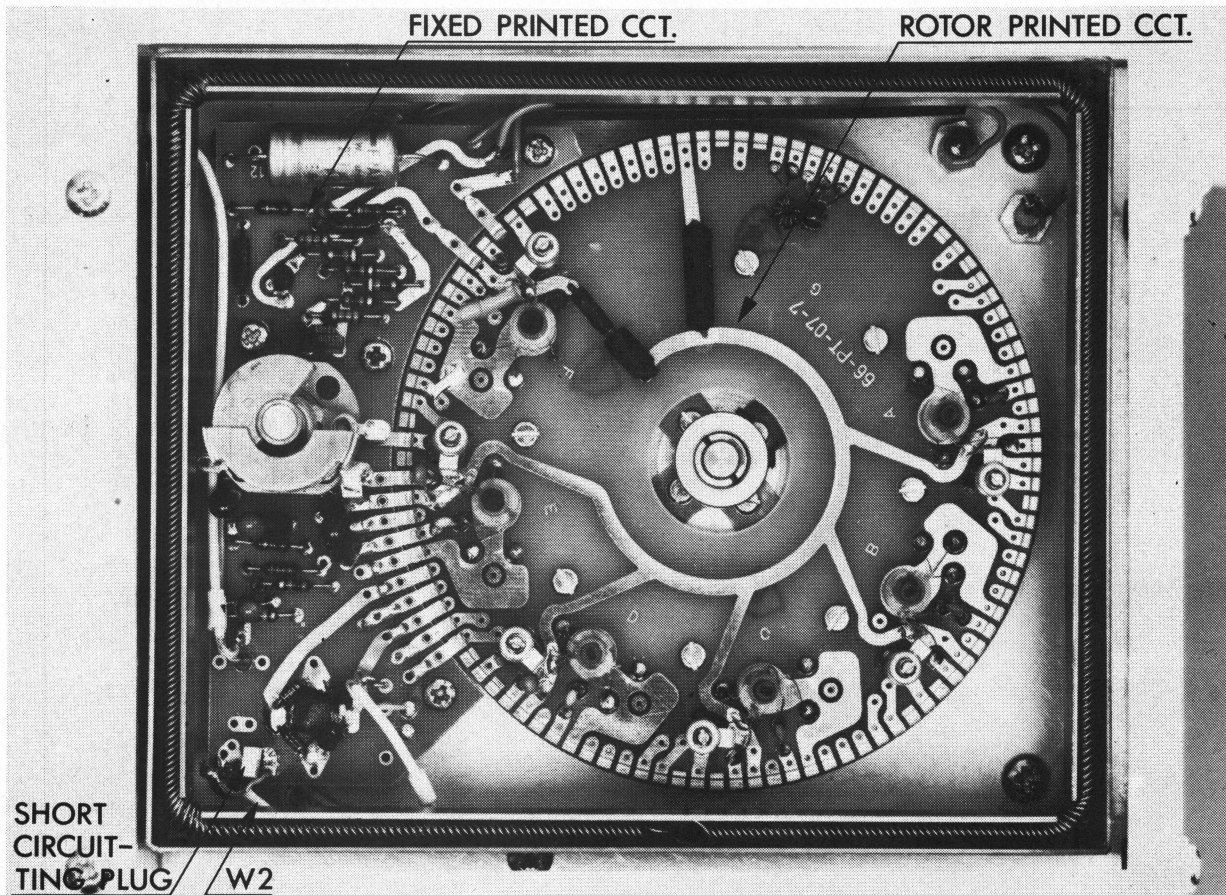

Fig. G5
- 1) Remove the cover of the TUNER (pry up) and unsolder the cable W2, shown in Fig.G5. (On the latest versions, a plastic-covered short-circuiting plug is provided to obviate unsoldering).